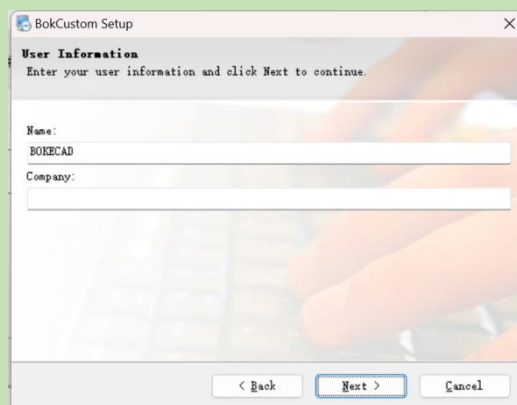

Figure 1-5
3. After entering the name, click “Next” (as shown in Figure 1-5).